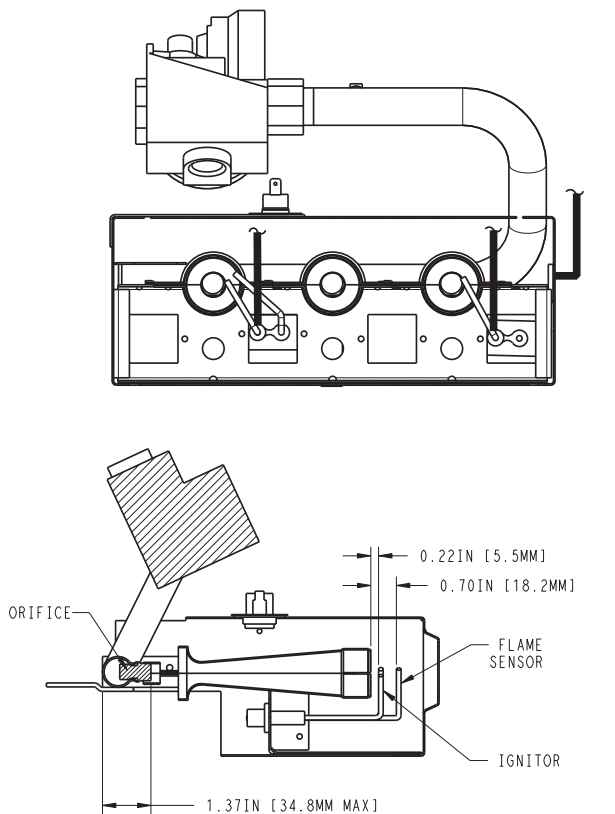

Fig. 12 - Single-Stage Igniter, Flame Sensor, Orifice/Main Burner Relationship
12. Remove the natural gas orifices from the manifold using a 9/16 in. wrench and install the correct propane gas orifices in the manifold (See Table 4 to select correct orifice size based on rated input. See Fig. 12 and 15 for orifice installation).
13. Replace the manifold/gas valve assembly into the burner assembly using the four screws saved from item 11.
21. Verify igniter, ignitor, flame sensor, orifice/main burner relationship prior to completing conversion. (See Fig. 12.) Partially slide burner rack assembly into unit.